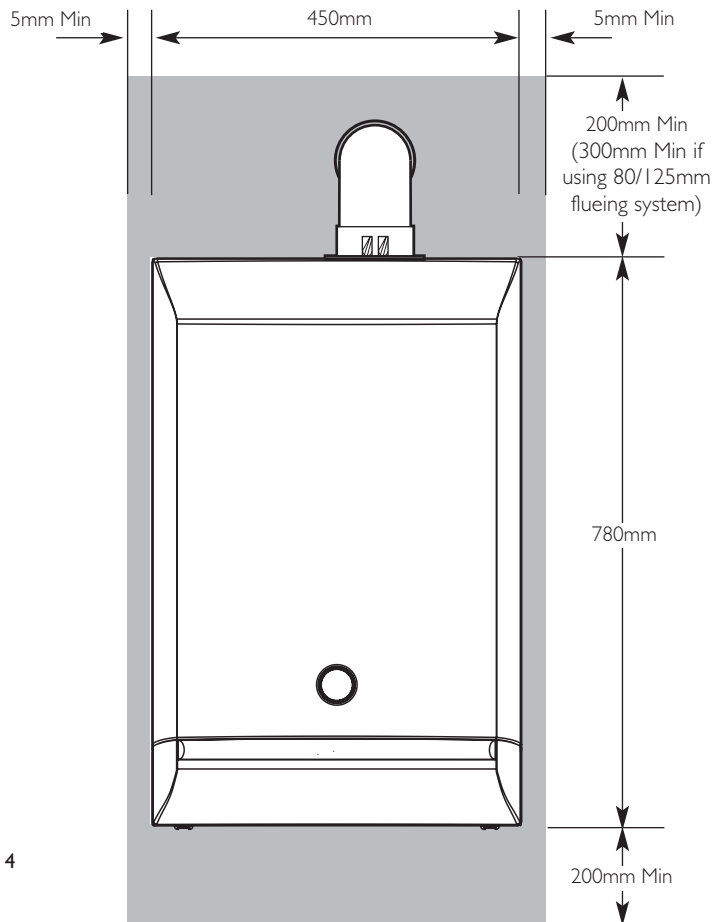

Fig. 4
6. Your boiler should have the following minimum clearances for Safety and Maintenance (Figs. 4 & 5):-